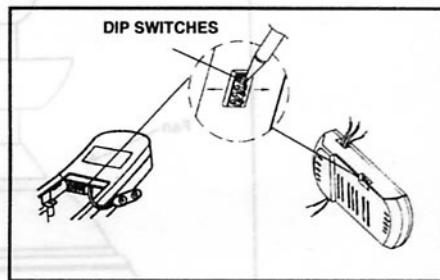

FIG. 11
**NOTE:** (Fig. 11) This remote control unit is equipped with 16 code combinations to prevent possible interference from or to other remote units. The frequency switches on your receiver and wall transmitter have been preset from the factory. Please recheck to make sure the switches from both units are set to the same positions. Any combination of settings will operate the fan as long as the wall transmitter and receiver are set to the same switch settings.